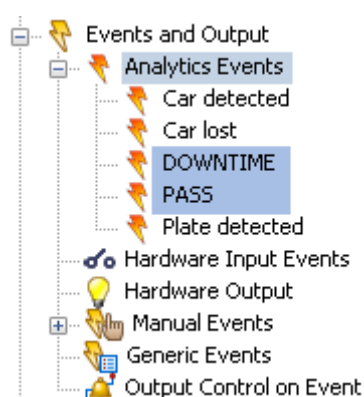

Figure 25: Configuring the **Entry/Exit_ParkingDOWNTIME** user script
3. Switch to **Parameters** tab and set the following parameters of script operation (Fig. 25):